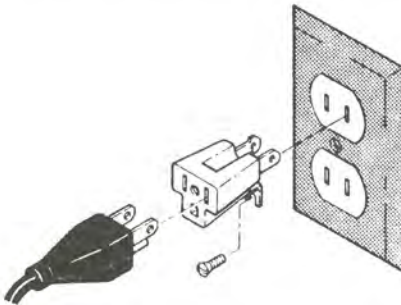

Figure 2. You can also use an adapter to connect a three-prong plug to a two-hole receptacle.
- If you have a two-hole receptacle, you can use an adapter to plug in the bandsaw. However, the green-colored grounding lug or wire on the adapter **must** be connected to a permanent ground such as a grounded outlet box. (See Figure 2.)